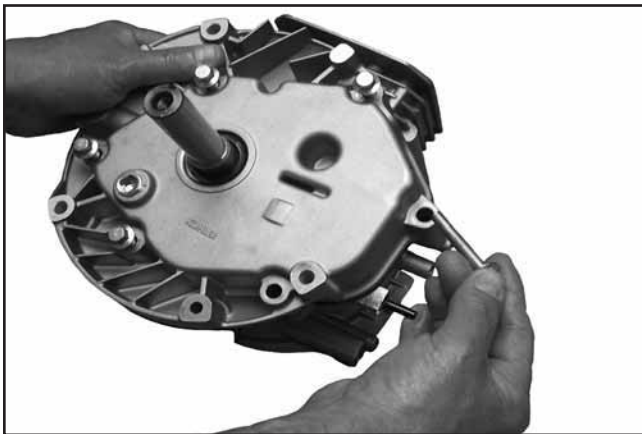

Figure 10-12. Installing Oil Pan Screws.
5. Install and finger tighten the six hex flange screws, securing the oil pan to the crankcase. See Figure 10-12.